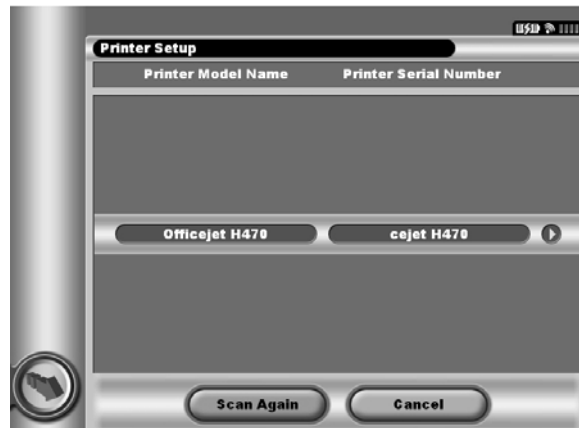

Figure 13: Printer Setup screen
- Once the scan is complete, the Printer Setup screen appears, which displays a list of Cameron Health-approved printers. Up to 6 printers can be configured. Select the button next to the desired printer. The Printer Setup screen appears (Figure 13).